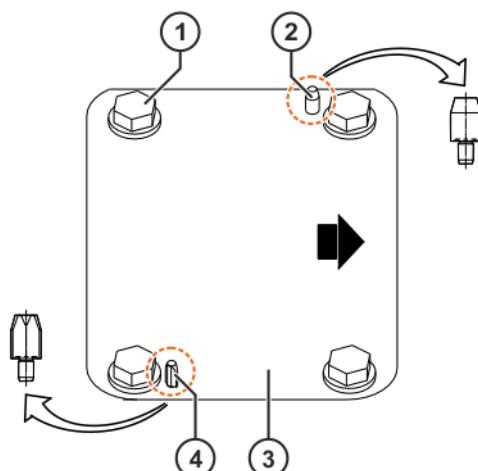

Fig. 8-1: Installing the machine frame mounting assembly
1. Clean the mounting surface of the robot (>>> Fig. 8-1).